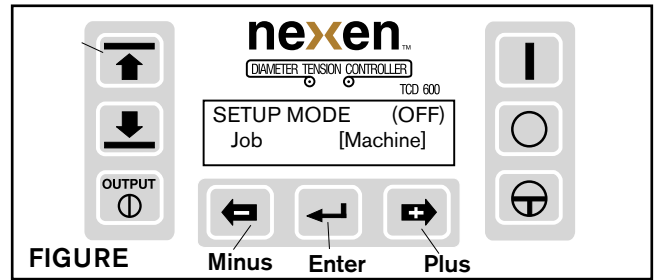

FIGURE 12
1. Press the Select Upper button until you reach Setup Mode (See Figure 12). The parameters in Setup Mode are set when the machine is initially installed or when the machine is modified. Press the plus or minus buttons to select Machine. Then press Enter.